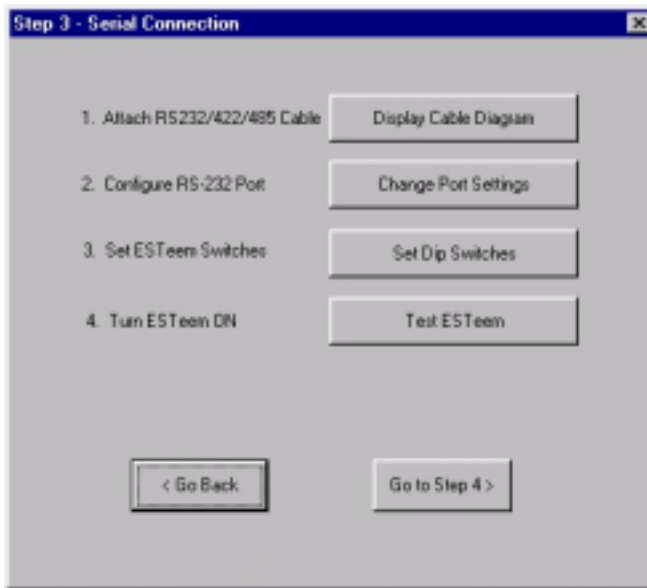

Figure 7: Step 3 – Serial Connection
7. Step 3 – Serial Connection window will be displayed (Figure 7). This step will help configure the computer and the ESTeem to communicate with each other.